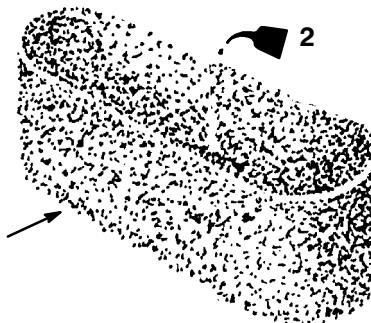

Figure 29
- Put one or two ounces of oil on the element (Fig. 29). Squeeze the element to distribute the oil.